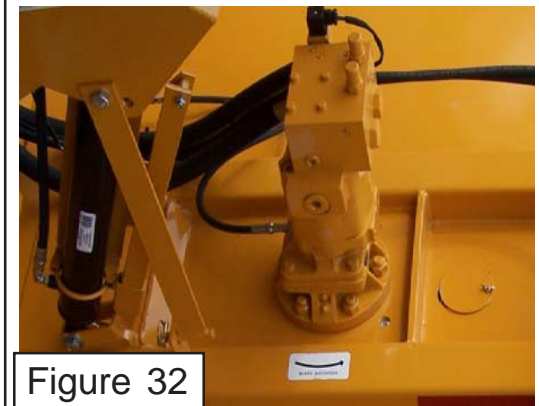

Figure 32
14. Install the spindle to the mower deck to where the fill plug and vent plug are pointing to the rear or the front of the mower, this should allow easy access to the plug for service (figure 32).
15. Make certain a new gasket has been installed to spindle. Re-Install the motor onto the spindle making certain that the motor is facing the correct direction and none of the hoses are twisted or kinked (figure 32).